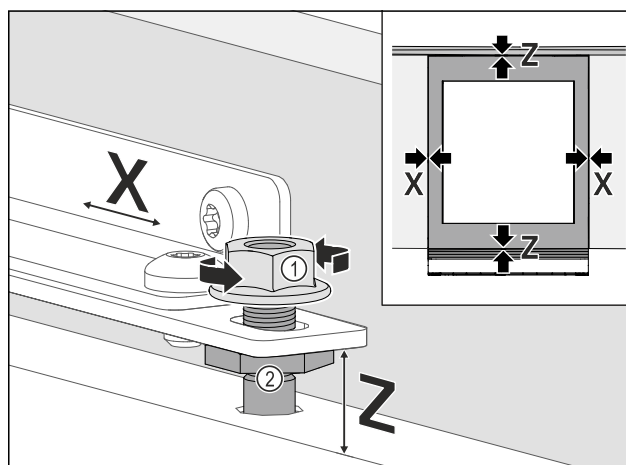

Fig. 78
- Align the unit door laterally: Loosen the lock nut Fig. 78 (1), move the unit door in X direction.
- Tighten the lock nuts Fig. 78 (1).
- Align the height Z and lateral inclination of the unit door: Set the adjustment bolt Fig. 78 (2).